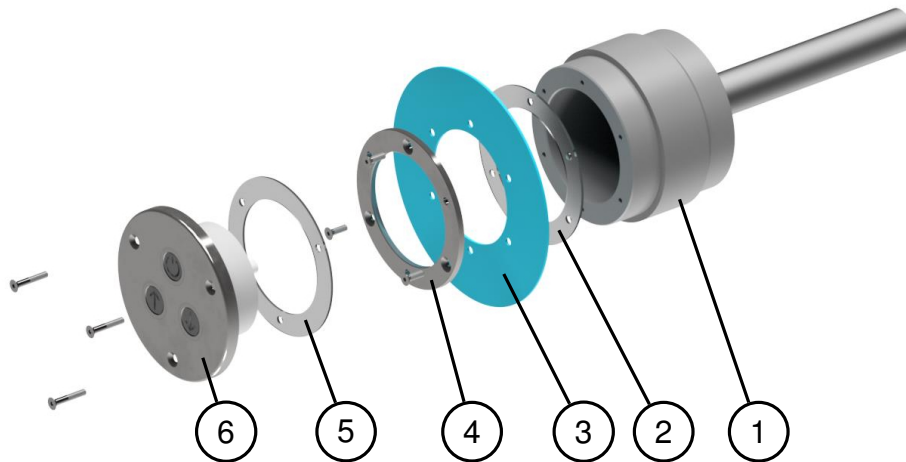

Figure 7: Exploded view of the piezo switch.
Figure 7 shows the order in which the piezo switch is assembled. The housing ① is set in concrete into the concrete wall. The seal (with six holes) ② is placed / glued between the contact surface of the housing and the swimming pool liner ③. The spring-loaded flange ④ presses the liner and the housing together. A further seal ⑤ (three holes) is placed between the spring-loaded flange and control panel ⑥.